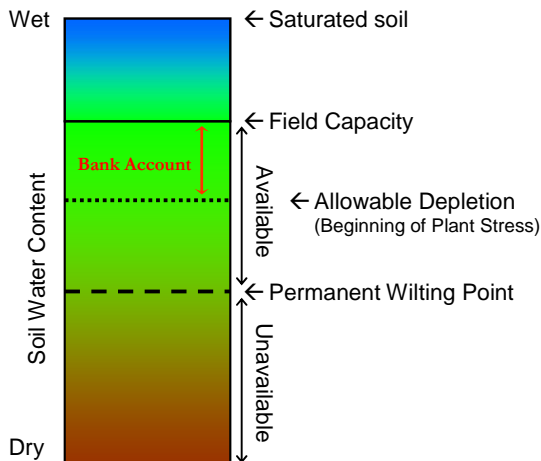

Figure 1. Soil water content from saturated to dry. Optimal soil moisture levels for plant growth are between field capacity and allowable depletion.
- Available Water is the amount of water held in the soil between field capacity and permanent wilting point (Figure 1).